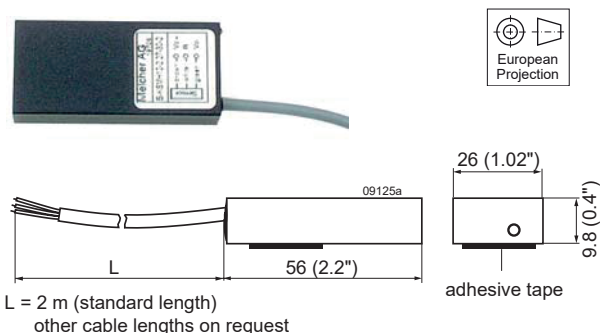

Fig . 17
- Battery sensor [S-KSMH...] for using the regulator as battery charger. Different cell characteristics can be selected; see fig. 17 and the Temperature Sensors data sheet.